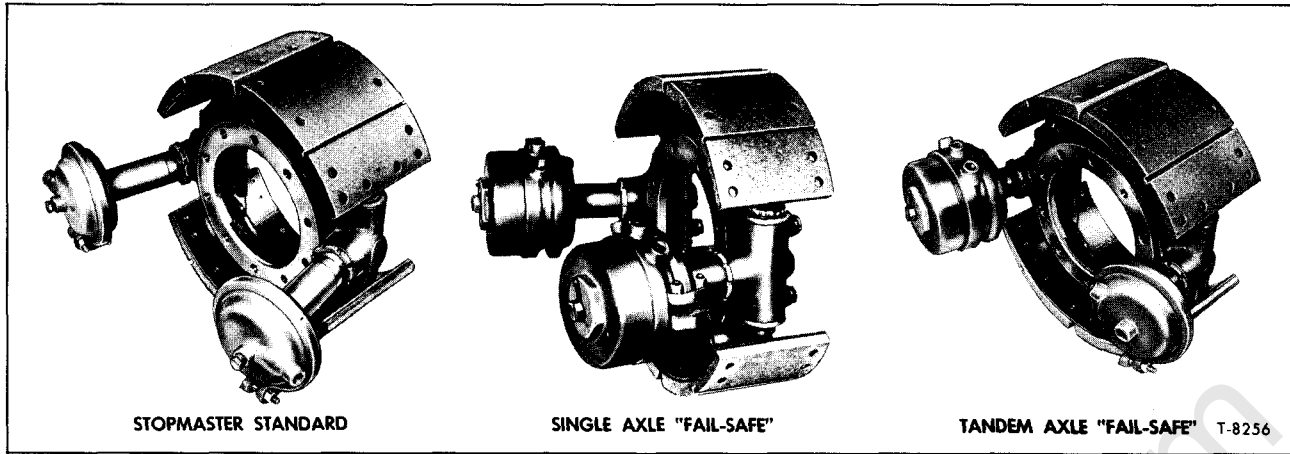

Figure 2—Stopmaster Brake Assemblies
Information relative to brake pedal and brake treadle adjustments are the same as given in Service Manual ST135-70, except for Conventional Cab Models. The suspended pedal installation shown in figure 2, page 5-10, is no longer used. All Conventional Cab Models use a treadle type installation as shown in figure 5, page 5-31. This is the same type as used on the 90 Series and is NOT adjustable.
1. Figure 24 (page 5-53) - Wiper grooves have been added to the brake linings of Stopmaster brake assemblies. See figure 2.